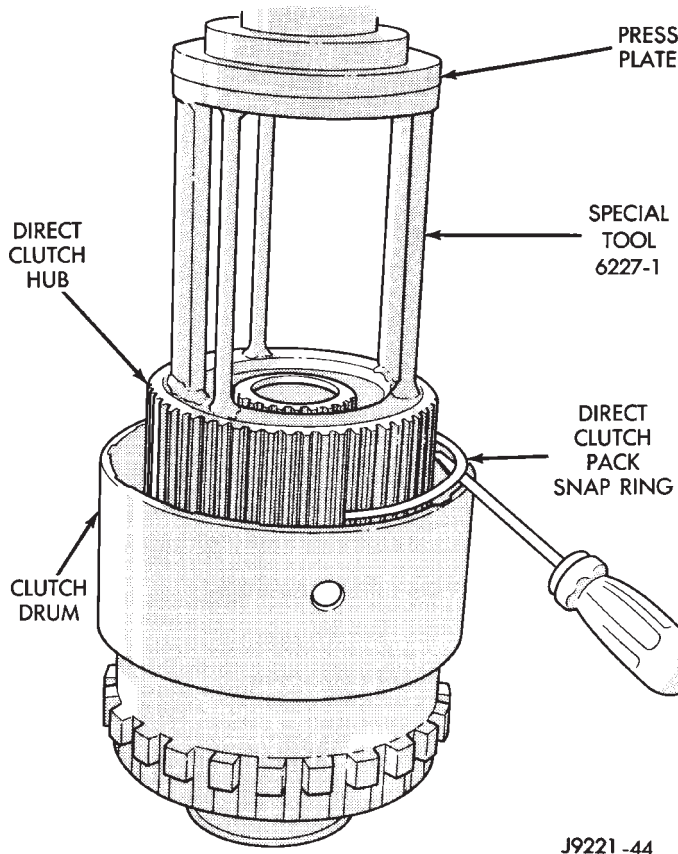

Fig. 22 Removing Direct Clutch Pack Snap Ring
(7) Mount geartrain in shop press
(8) Position Compressor Tool 6227-1 on clutch hub (Fig. 22). Support output shaft flange with steel press plates as shown and center assembly under press ram.
(9) Use Bushing Tool MB990891 (or similar size tool) at top of Tool 6227-1 to help distribute load and provide needed extra press length.
(10) Apply press pressure slowly. Compress hub and spring far enough to expose clutch hub retaining ring and relieve spring pressure on clutch pack snap ring (Fig. 22).
(11) Remove direct clutch pack snap ring first (Fig. 22).